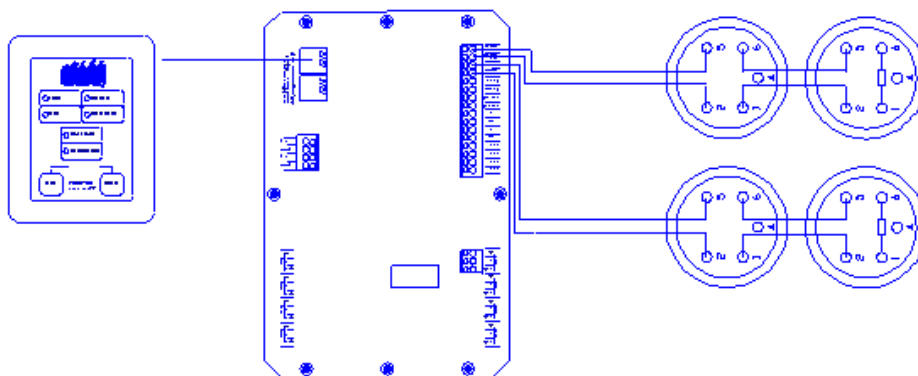

Fig. 1
Two detectors can be fitted on each zone (Fig. 1). The detector located farthest from the FCP shall have a 47K Ohm End-of Line (EOL) resistor installed.
The Control Panel has two detection zones, Accommodation and Engine. Each of these zones will support up to two detectors. An unlimited number of Manual Call Points can be fitted in parallel on each zone. A 47k resistor should be fitted to the last detector or Manual Call Point on each zone. Observe correct polarity for connection to the detectors. (See Fig 1.). The detector line impedance is 5 Ohms maximum. The detector's maximum current shall be less than 0.15 Amps RMS and the voltage shall be +24VDC +/- 4 VDC at a frequency of 0Hz (DC).